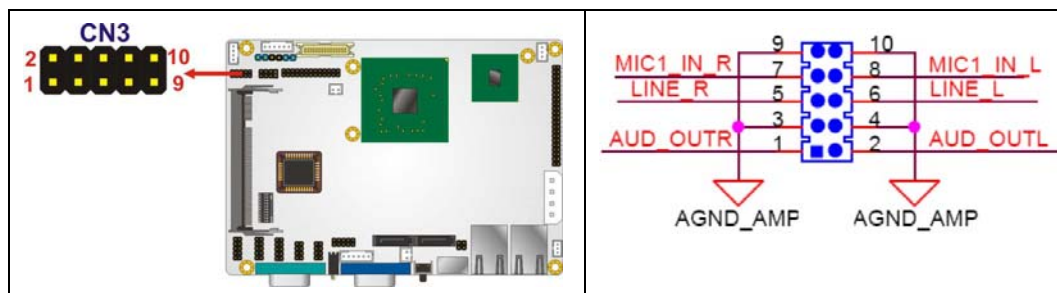

Figure 4-3: Audio Connector Location (10-pin)
- CN Location:** See **Figure 4-3**